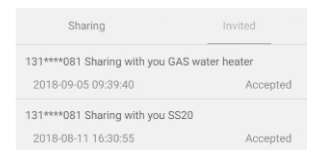

Fig.23
3. Go to [Message Center] to see the sharing situation (Fig. 23).